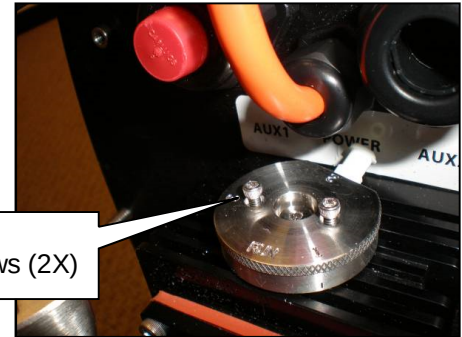

Figure 15: Bleed Selector Screws
1) Open the transformer valve fully and inspect for any oil leaks. Power-on the TM1 with the black toggle switch. Using a 3/32" Allen key, remove the two cap screws located on the top of the bleed selector on either side of the screw in the center as shown (**Fig 15**).
3) Draw the syringe plunger back to remove air and draw bubble-free oil into it. Rotate the bleed selector clockwise and repeat for the other two positions, pulling air and then oil out of each port. Remove the syringe from the Luer fitting, replace the Luer cap and rotate the bleed selector counter-clockwise to the **Run** position (**Fig 15**).